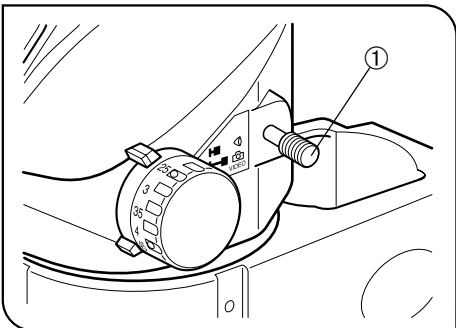

Fig. 10
(Fig. 10)
- ★ Always move the light path selector lever ① until it hits the stop position.
1. For observation through the binocular light path, push in the light path selector lever ① till the stop position. (Fig. 10)
2. For the TV camera light path, pull out the light path selector lever ① till the stop position. (Fig. 10)